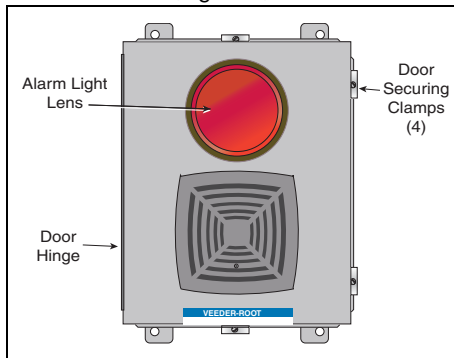

Figure 1. Overfill Alarm Box
1. Loosen the 4 door securing clamp screws and slide all of the clamps free of the cover (Figure 1).